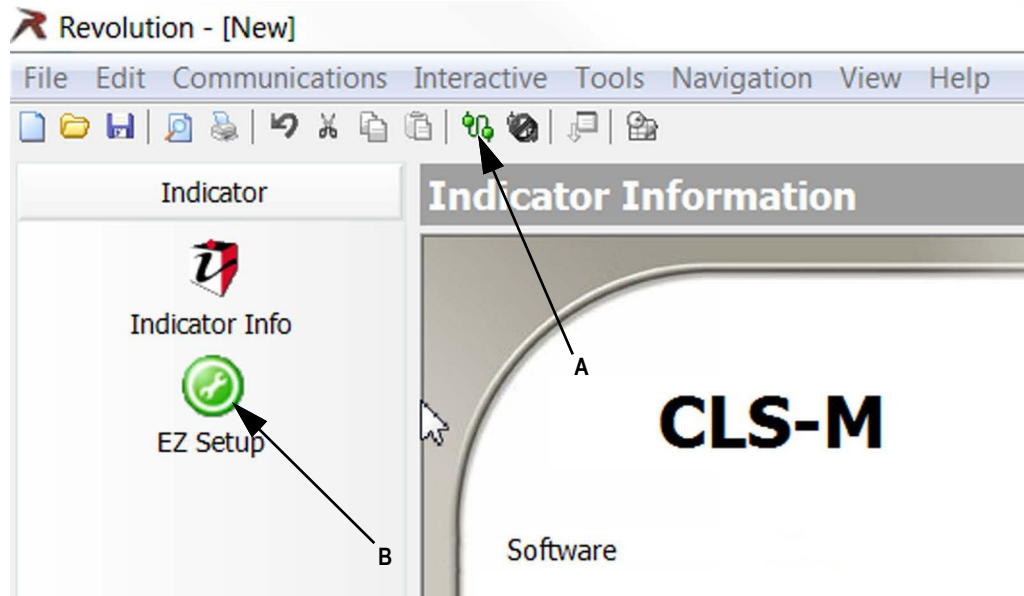
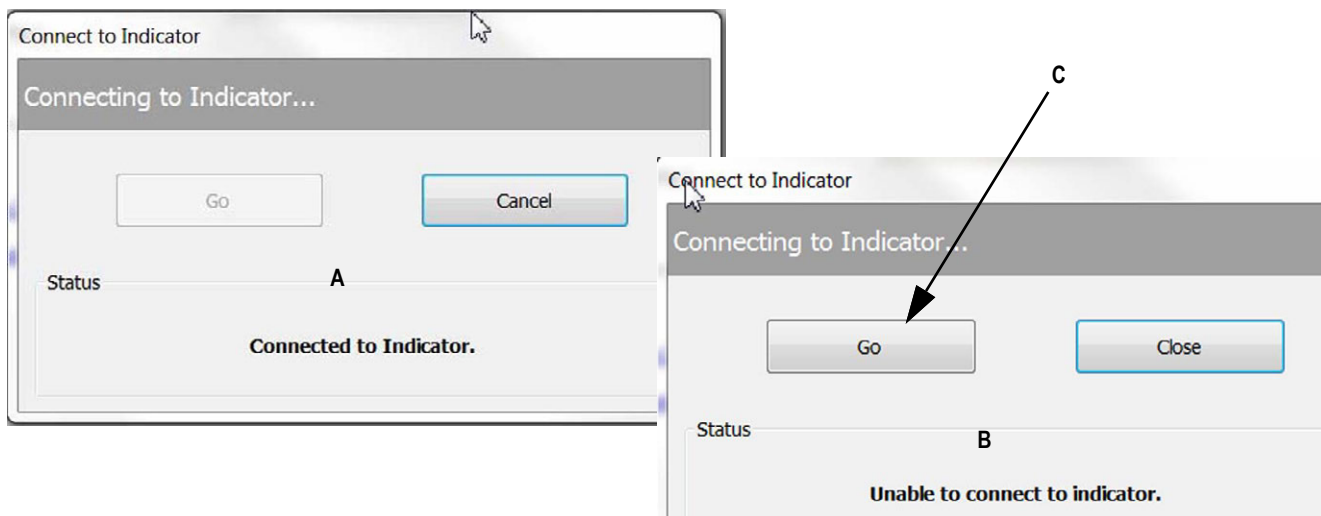

Figure 4-48. Connect Revolution to Power/Communication Box
Figure 4-49. Connection Success/Failure
10. Select the connect icon from toolbar (Figure 4-48 A). A pop-up box comes up momentarily (Figure 4-49 A) to indicate the computer is now indicated to the box.
11. If it comes up as **Unable to Connect to Indicator** (Figure 4-49 on page 41 B) verify the Comm Port is correct and that the power/communication box is turned on. Then select **GO** (Figure 4-49 on page 41 C) to connect.